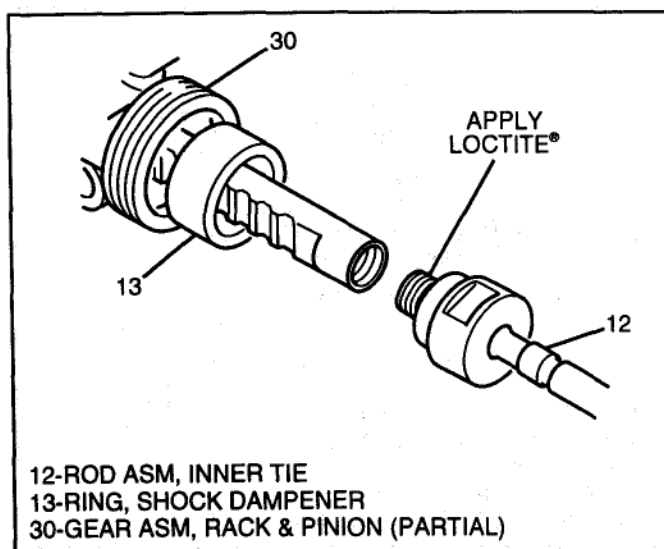

Figure 8 Inner Tie Rod Installation
2. Apply Loctite 262® to inner tie rod threads (see Figure 8).